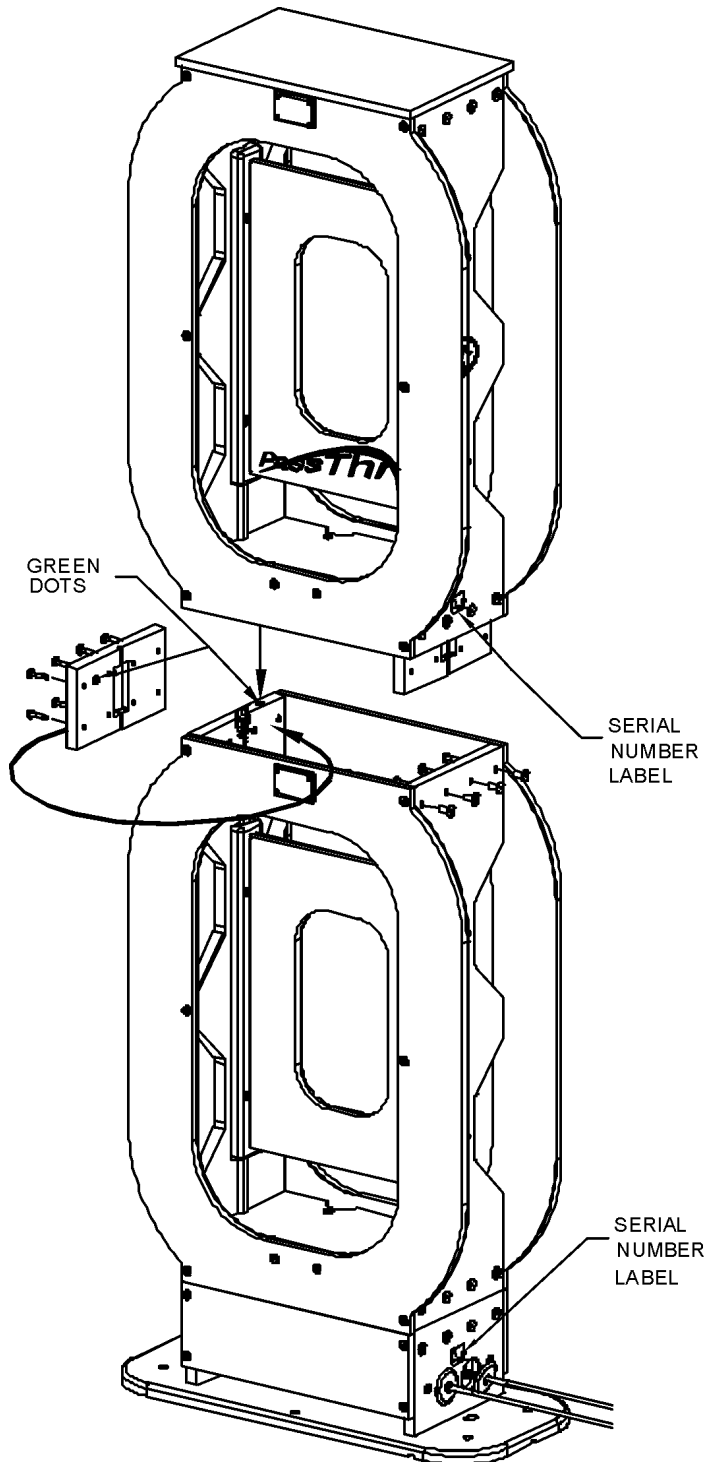
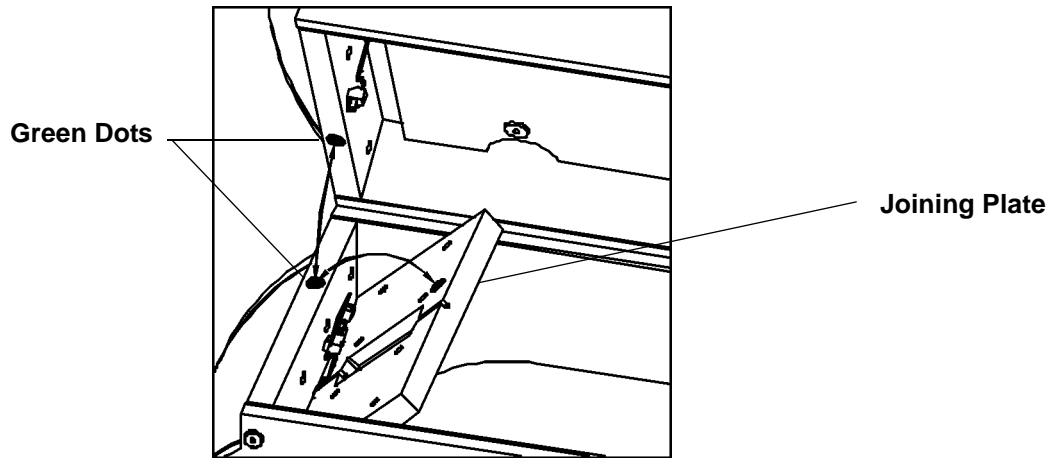

Figure 6: Green Orientation Dots Location
Figure 7: Green Dot Alignment
1. Place the base half on a flat surface and note the position of the green dots shown in Figure 6.
2. Align the halves according to the green dots and place the top half of the antenna on the base half. See Figure 7. Check that the halves have matching serial numbers (see Figure 6).